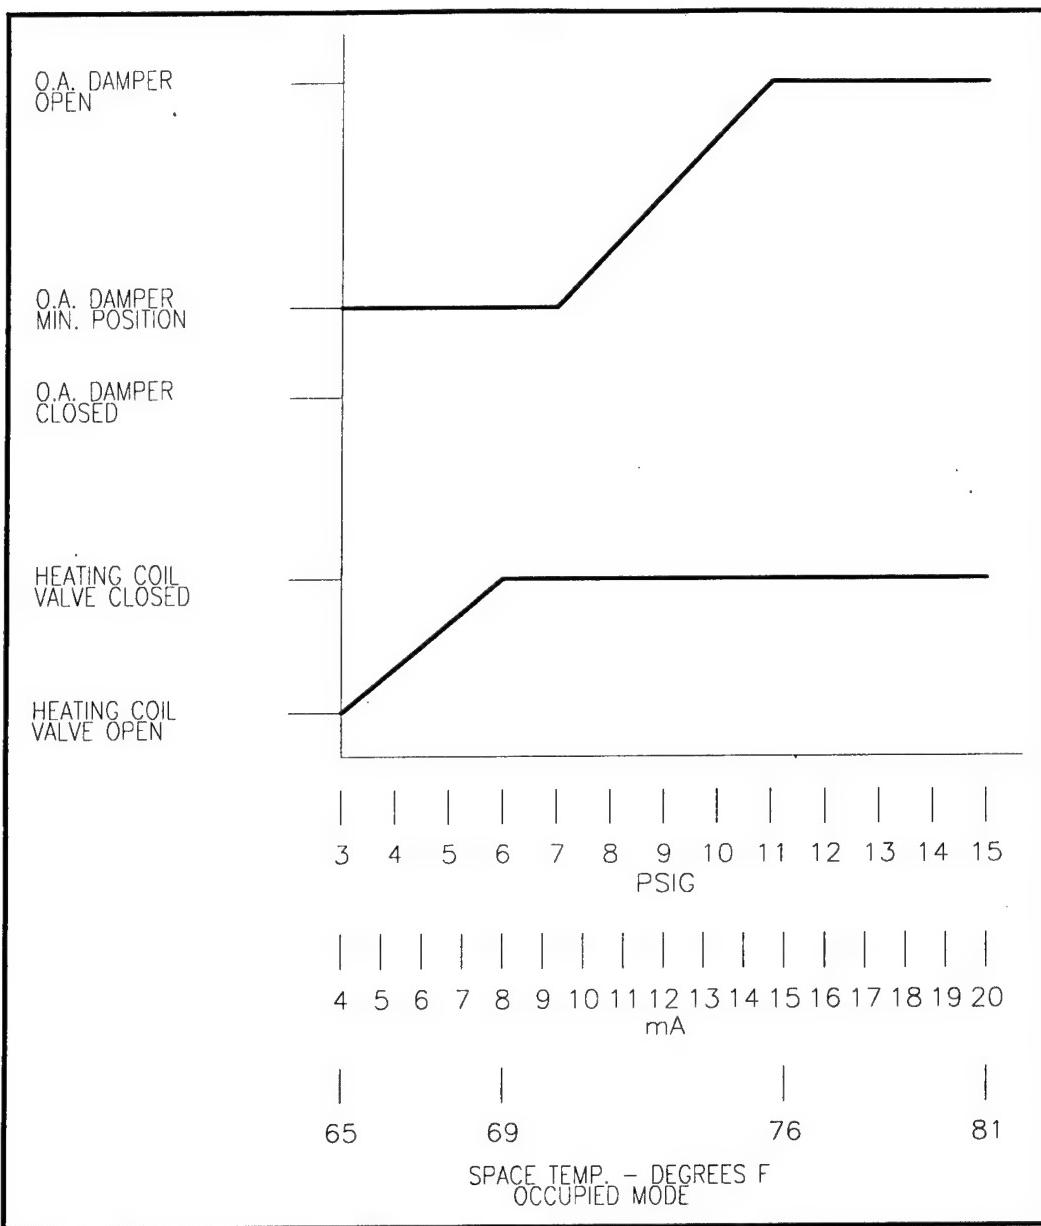

Figure 4. Typical sequencing schedule.
Sequencing schedules (Figure 4) illustrate the relationship between the process variable (temperature, pressure, flow, relative humidity) and the positions of the controlled devices when the control system is in the occupied mode. Information provided in the sequencing schedule includes the relationship between the Process Variable (PV) space temperature ($^{\circ}\text{F}$ sensed by controller TC XX-01), the controller output signal in millamps, and the current to pneumatic transducer (IP XX-01 and IP XX-02) output signals in units of pounds per square inch.